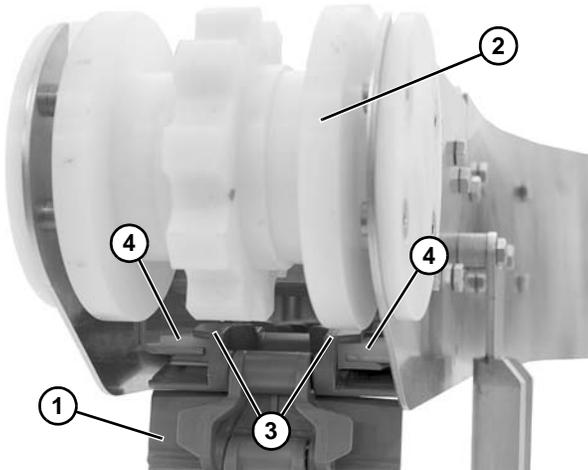
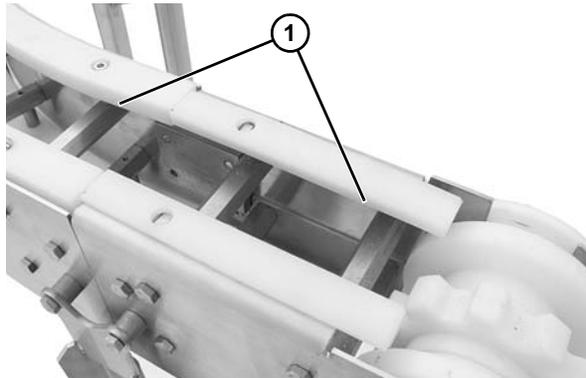

Figure 10
Figure 12
2. Install belt (**Figure 10, item 1**) into conveyor under idler pulley assembly (**Figure 10, item 2**).
3. Continue feeding belt in toward drive end, making sure that the tabs (**Figure 10, item 3**) ride along the top of the wear strips (**Figure 10, item 4**).
5. Continue wrapping belt on top of idler pulley, making sure that the belt tabs (**Figure 10, item 3**) are installed under the wear strips (**Figure 12, item 1**).